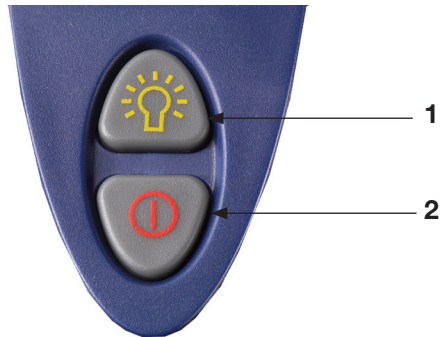

Figure 3.2: Function keys
Press the power -key to turn on and turn off the meter (see fig 3.2, key 2). When the meter is powered on, the preset alarm value and current air temperature will be blinking on the LCD. The meter is now running a self-test and will finish in about 15 seconds with a short beep. It will then enter the measuring mode.
Users can select °C or °F as the temperature unit by pressing the backlight key (see fig. 3.2, key 1) for more than 1 second during the self-test.
The alarm value of the meter is preset at 25 ppm to give warnings of possible danger. Users can adjust the value for different needs or standard by turning off the meter, then press and hold the power -key (see fig. 3.2, key 1) until the value options appear in the display. There are 10, 25, 30, 35, 45, 50, 70 and 100 ppm displaying in cycles. Release the button to select the preferred value. Then the meter will return to Self-Test mode in some seconds.
The meter features backlight function for using in dark areas. Press the backlight to activate and switch off the backlight. (Figure 3.2, key 1).